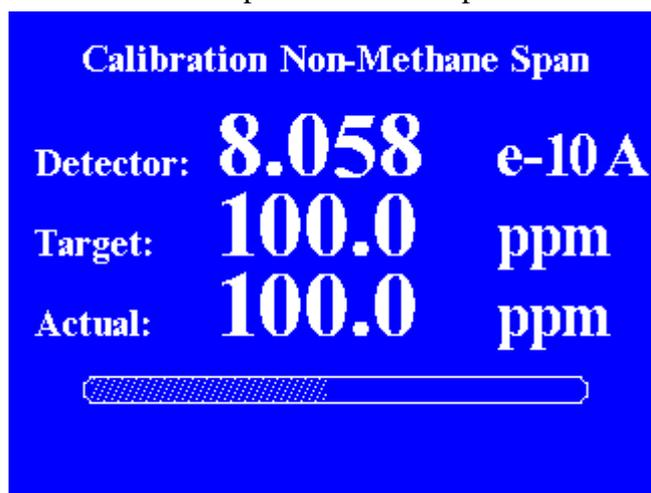

Figure 12. Auto calibration non methane span screen
5. The Non methane Calibration Zero screen will remain open for the length of the dwell time. At the end of the dwell time the zero point will be saved and the actual concentration value will automatically be adjusted. After the Zero point has been saved, Span gas is directed to the detector and the Non methane Calibration Span screen will open as shown in Figure 12.